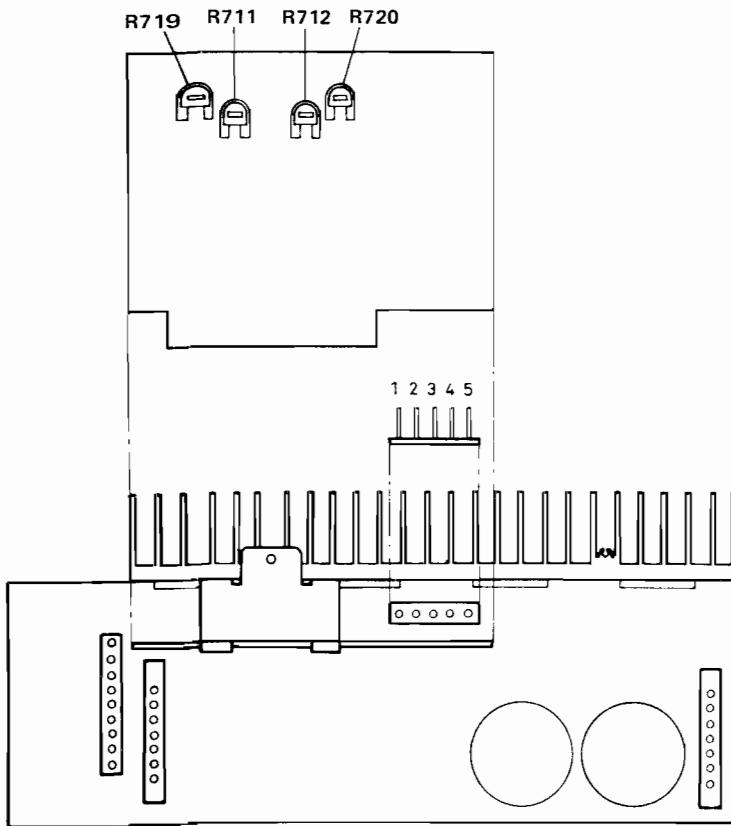

Fig. 22
3. Adjust R711 (R712). Meter should read 0 ( $\pm 0.05$ ) volt. Refer to Fig. 22.
5. Adjust pot R719 (R720) for DC VTVM reading of 10mV. Refer to Fig. 22.